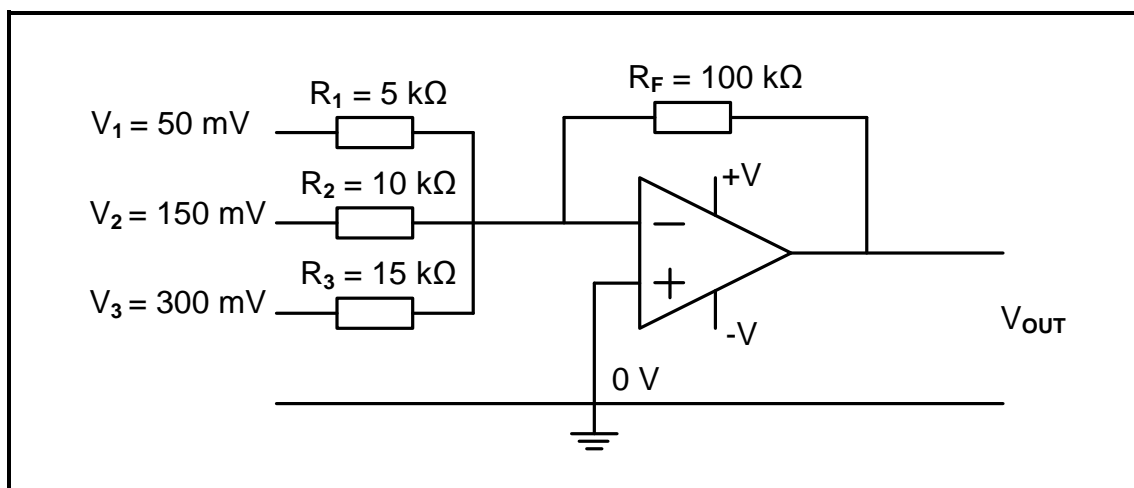

FIGURE 2.7: INVERTING SUMMING AMPLIFIER
2.7 Refer to FIGURE 2.7 below and answer the questions that follow.